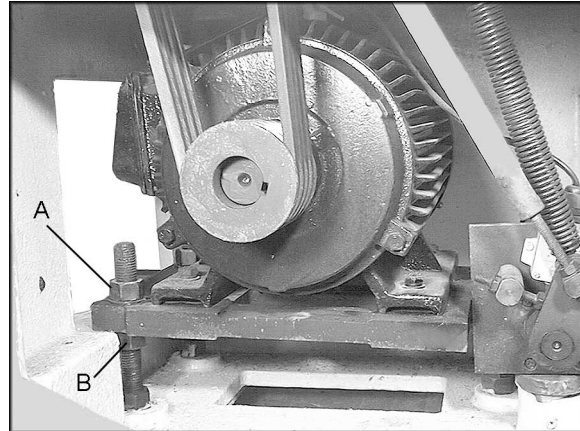

Figure 19
3. Loosen upper hex nut (A, Figure 19). Place scrap piece of wood under motor to act as lever. Lift motor up and block temporarily.
6. Tension belts by loosening lower nut (B, Figure 19) and tightening upper nut (A, Figure 19) until light finger pressure causes approximately 3/4" deflection on each belt.